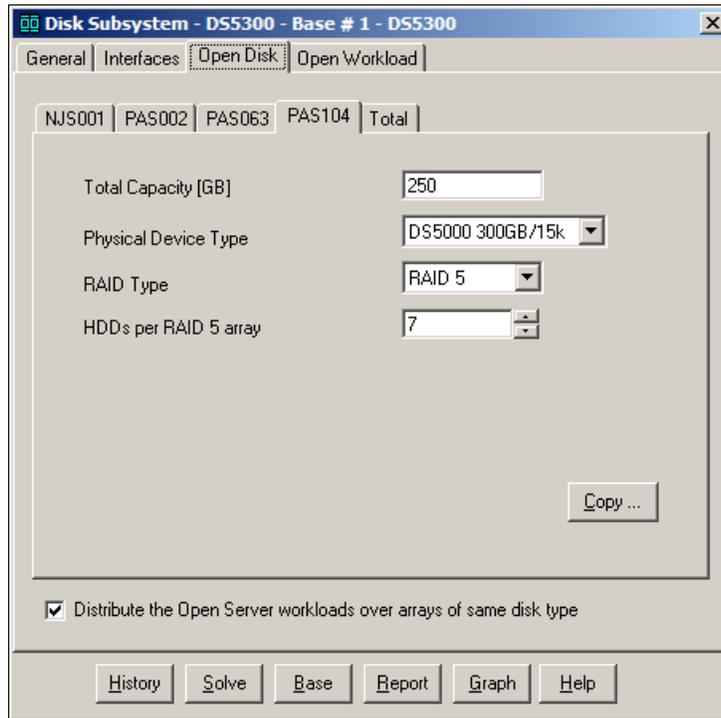

Figure 10-17 Storage server disk configuration
The measurement data generated with `iostat` or Windows `perfmon` is limited because it does not contain Storage Server configuration information such as Total capacity, Physical Device Type, RAID type, and HDDs per RAID array. At this point, this configuration data can be picked up from the DS storage profile or directly from the DS Storage Manager (SM). For example, Figure 10-17 shows that the Host Server *PAS104* has been mapped to a Logical drive of 250GB in a RAID 5 array composed of seven FC 300 GB 15k Hard Disk Drives (HDD).